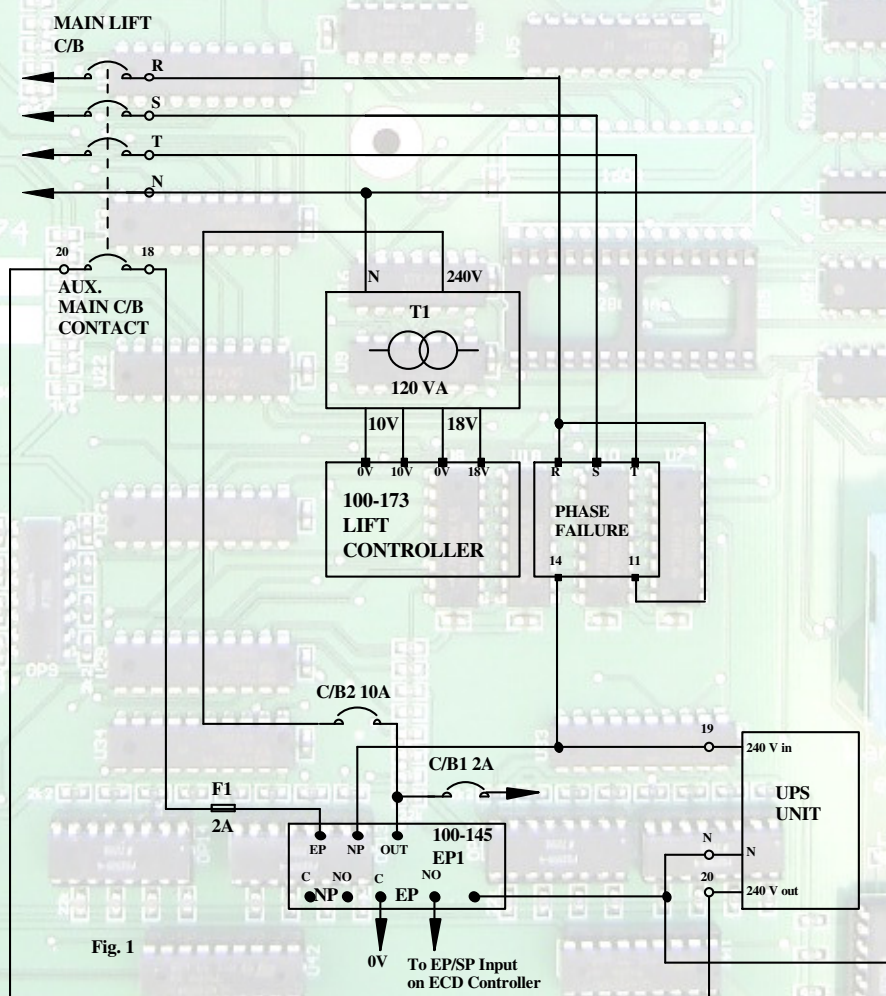

Fig. 1
Under normal power conditions; See fig. 1
When loss of power or phase occurs; See fig. 1
- Phase fail relay must be supplied directly from main C/B, with no circuit breakers or fuses in between. (See fig. 1).
- To prevent the elevator from traveling back to the bottom floor when the power is switched off via the main circuit breaker, the main C/B must have an auxiliary contact in series with EP input, (see fig 1) to be supplied by the customer.